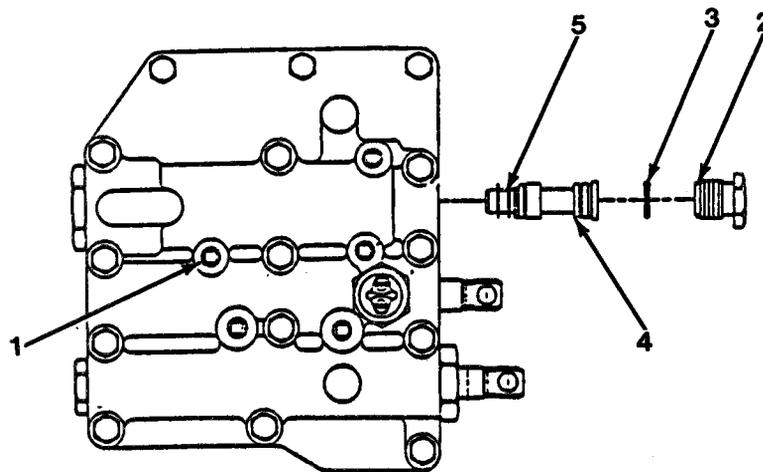

Figure 11-1
7. Remove gauge from port (1, Figure 11-1).